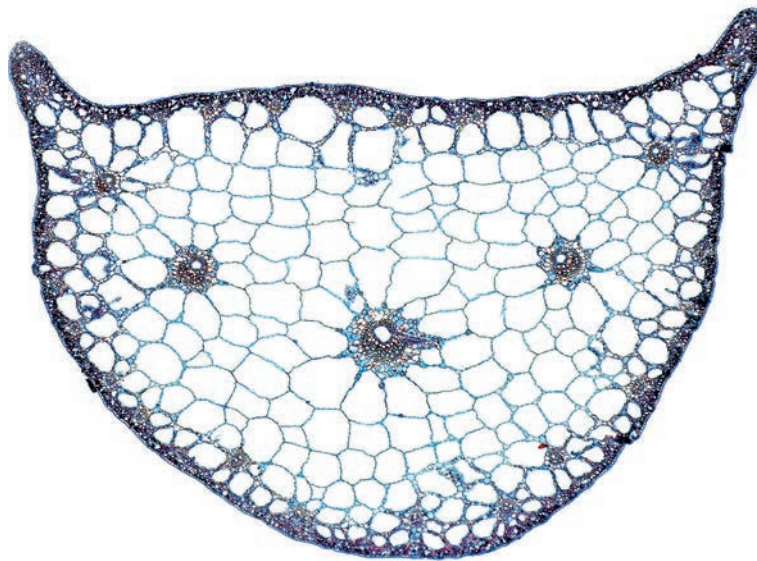

Fig. 2.3
Fig. 2.3 is the same photomicrograph without the eyepiece graticule scale and without the line X–Y.
(c) Annotate Fig. 2.3 to describe **three** observable differences between the stem sections in Fig. 2.3 and on **K1** by:
- drawing label lines to **three** features in Fig. 2.3 that show these differences